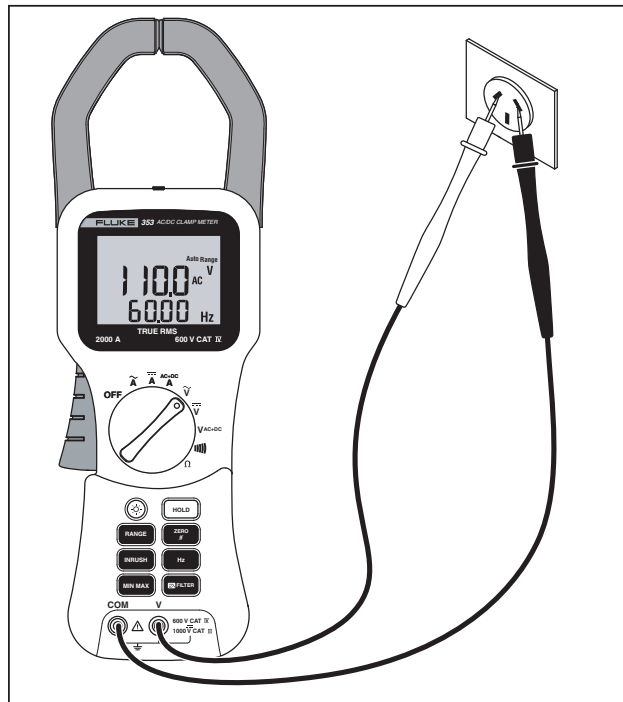

Figure 5. AC Voltage Measurement
5. When measuring ac voltage, press **Hz** to view the frequency reading on the frequency display. See Figures 5 and 6.